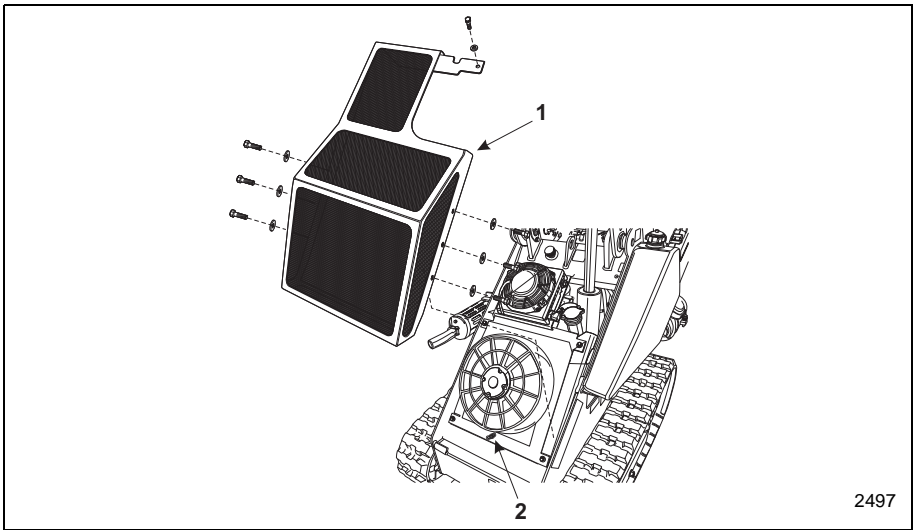

Figure 4-26 Radiator Drain
- a. Remove the protective screen (Item 1, Figure 4-26) from over the engine radiator and hydraulic radiator.
- d. Open the petcock (Item 2, Figure 4-26) at the bottom of the radiator and allow all of the coolant to drain from the radiator.